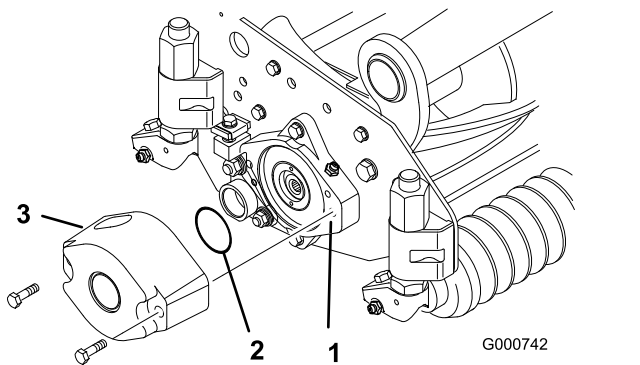
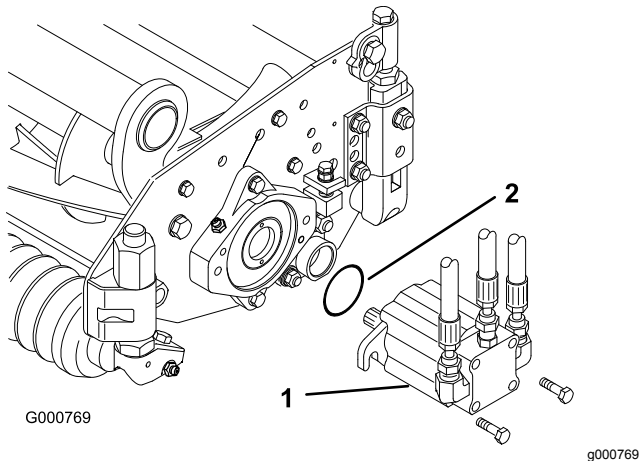

Figure 15
Figure 18
3. Lubricate and install a large O-ring into bearing housing groove on each end of cutting unit (Figure 15 & Figure 18).
4. Install a counter weight onto the appropriate end of each cutting unit with the cap screws provided (Figure 15).
13. Mount the motor to the drive end of the cutting unit and secure it with 2 cap screws (Figure 18).